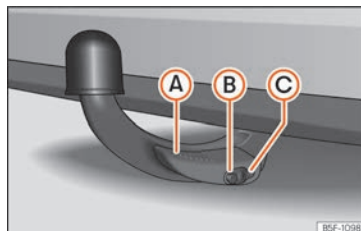

Fig. 258 Detachable ball properly attached.
- Lever **A** » **Fig. 258** is fully raised.
- The release bolt **B** » **Fig. 258** is sticking fully out (the red and green part is visible).
- Cover **C** » **Fig. 258** is placed over the lock.